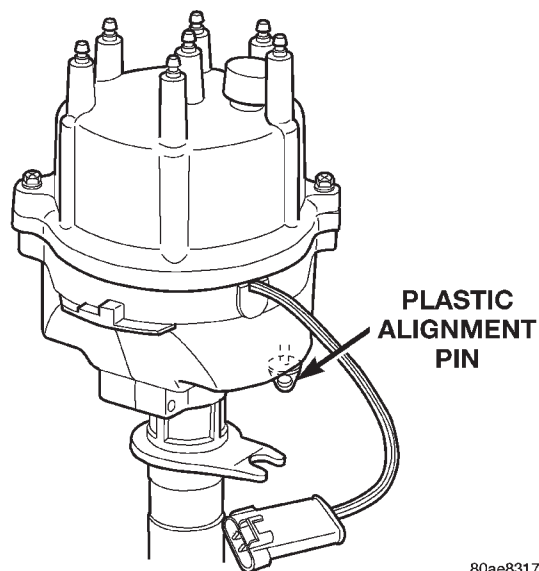

Fig. 36 Plastic Alignment Pin—4.0L Engine
Factory replacement distributors are equipped with a plastic alignment pin already installed. The pin is located in an access hole on the bottom of the distributor housing (Fig. 36). It is used to temporarily lock the rotor to the cylinder number 1 position during installation. The pin must be removed after installing the distributor.
(3) Factory replacement distributors are equipped with a plastic alignment pin already installed (Fig. 36). This pin is used to temporarily hold rotor to cylinder number 1 firing position during distributor installation. If pin is in place, proceed to Step 8. If not, proceed to next step.
(4) If original distributor is to be reinstalled, such as during engine overhaul, the plastic pin will not be available. A 3/16 inch drift pin punch tool may be substituted for plastic pin.
(5) Remove camshaft position sensor from distributor housing. Lift straight up.